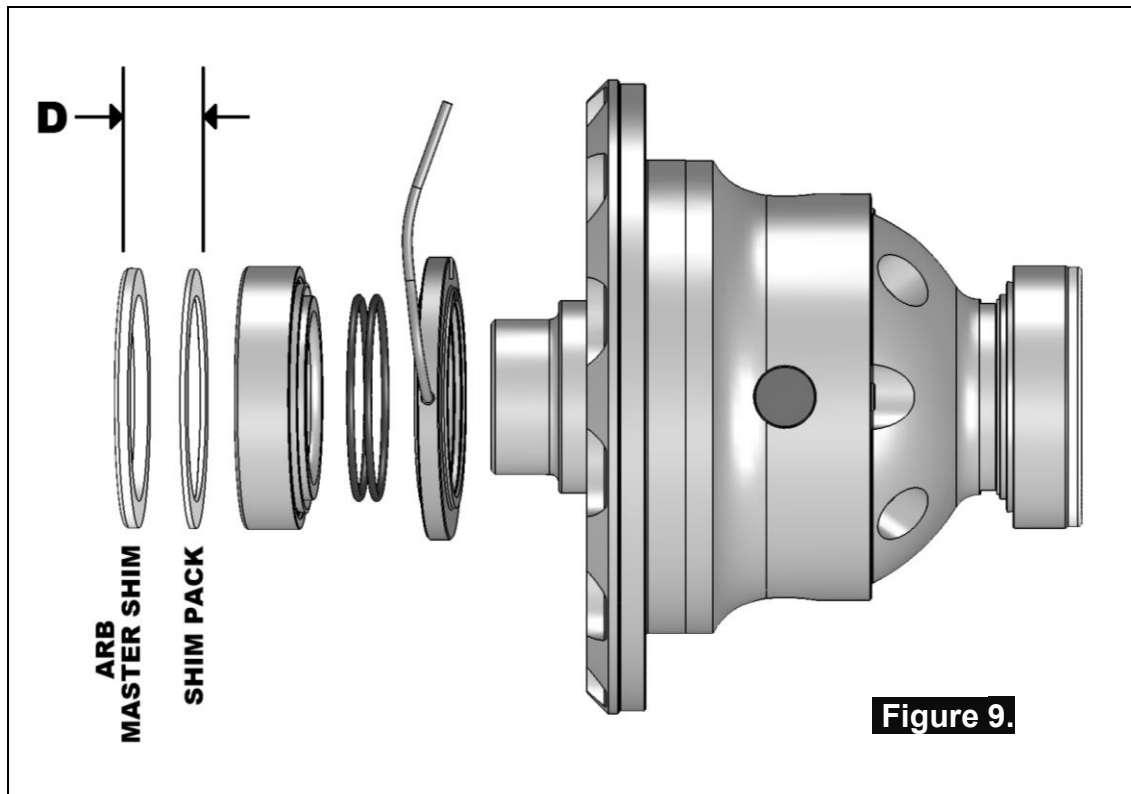

Figure 9.
- With the seal housing rotated as shown in Figure 9. (so that the tube will be pointing to the bottom of the diff housing when installed), carefully install the seal housing by sliding it all of the way onto the seal housing journal with a gentle twisting motion. This will allow the O-rings to engage gently.
In order to pre-load the tapered roller bearings in your *Air Locker*, measurements need to be taken so that a value can be calculated for the shim thickness 'D' in Figure 9.
- Add the specified pre-load amount to the measurement taken with the feeler gauge to determine a shim amount for 'D' in Figure 9.
- Place the shim pack 'D' between the bearing cup and the ARB master shim as shown in Figure 9.
- To decrease the amount of backlash, reduce the shim thickness 'B' (Fig.7.) and increase the shim thickness 'D' (Fig.9.) by the same amount. Reverse this step to increase the backlash.